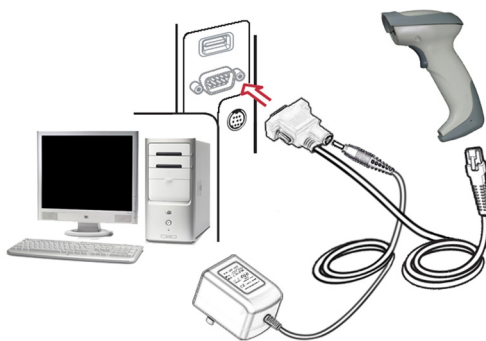

Figure 4
1. Refer to Figure 4, connect the USB interface cable to the bottom of the scanner.